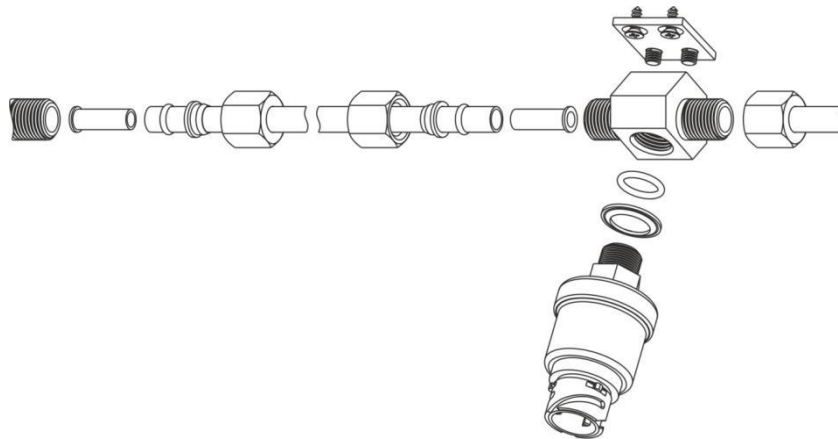

Figure 31 — GNOM DDE mounting scheme 4
4) Using mounting kit GNOM MK DDE2 the sensor can be installed into **$\varnothing=8$ mm supply pipeline fitting** (see figure 31).